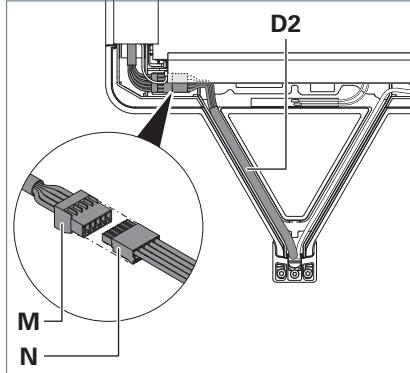

Fig. 7: Connecting the supply cable.
- ▶ Take the pin strip **M** out of the compartment under the heat sink, see Fig. 7.